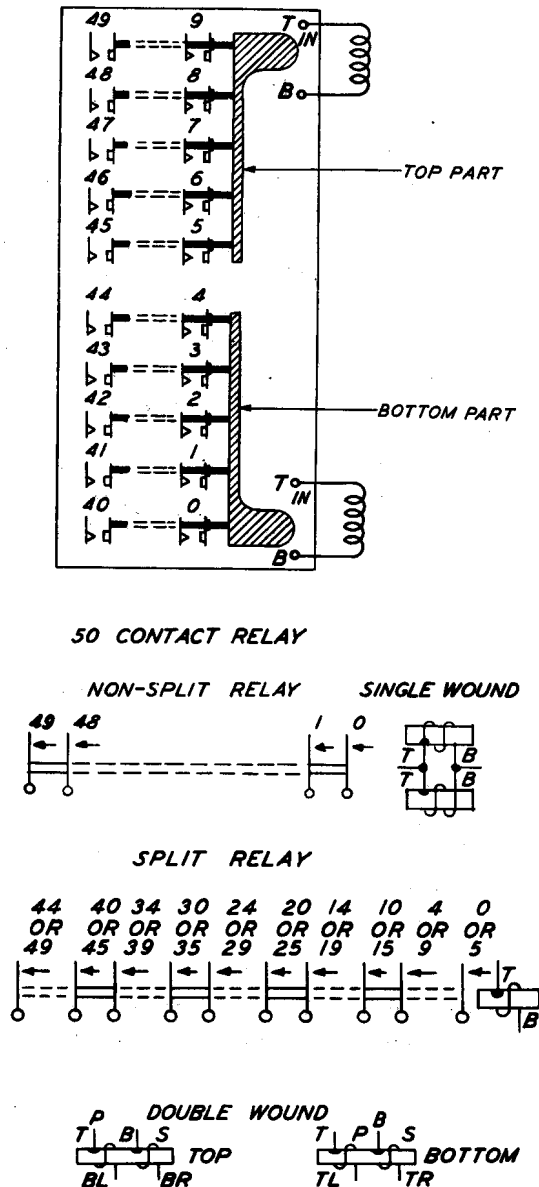

Fig. 48 — Winding and Contact Spring Arrangement as Viewed From the Front (contact side) — 245-, 254-, 263-, and 264-Type Relays
**2.56** The contact springs are numbered consecutively in vertical rows of ten pairs of springs starting at the bottom with pair 0 in the row nearest the vertical armature as shown in Fig. 48 and continuing with each vertical row of springs from right to left facing the contact side of the relay. Either half of a relay may be operated separately or both halves may be operated together, the numbering of the contact springs being the same in each case. Where both halves are operated together the schematic drawing shows the two windings in multiple and shows a single armature and all the contact spring pairs. In case both halves of the relay perform identical functions but operate separately, one magnet and set of springs are shown with two sets of spring numbers. Otherwise each half is shown as a separate relay with its own arma-